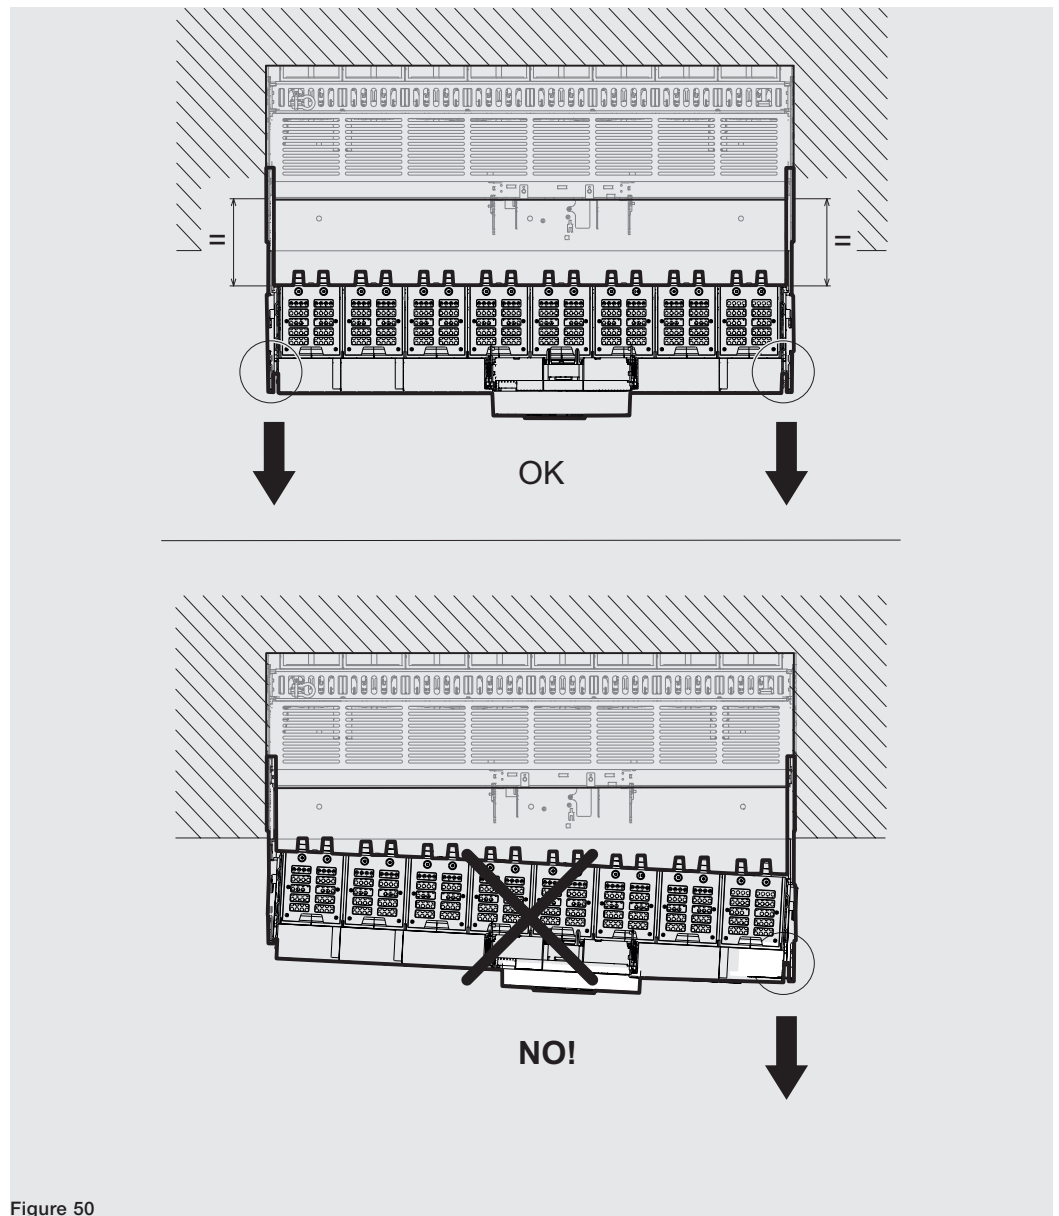

Figure 50
**⚠ WARNING!** When withdrawing the moving part, make sure that both guides on the fixed part travel to the same extent, thereby keeping the moving part parallel to the fixed part. See Figure 50.